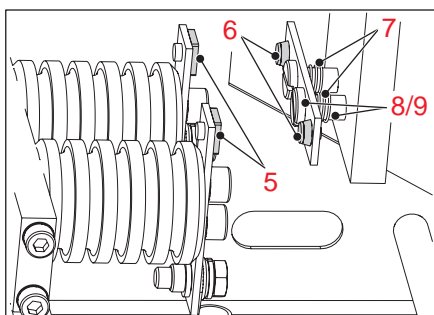

Figure 20
- The silver contact surfaces on the contacts K1/13 and K1/14 (5) as well as on the contact bridge K1 (6), see **Figure 20**.
- In the case of burned-off contacts replace the complete contacts K1/13 and K1/14 (5) and the contact bridge K1 (6), refer to section “Replace contacts K1/13 and K1/14”, page 23 and “Replace contact bridge K1 and pressure springs”, page 24.
5. Check spring mechanism (7) of contact bridge K1 (6) for free movement.
- When the contact bridge (6) sticks, clean the bearing spots (8) and the axles (9).
6. Check contact springs (7) for spring fracture and fatigue.